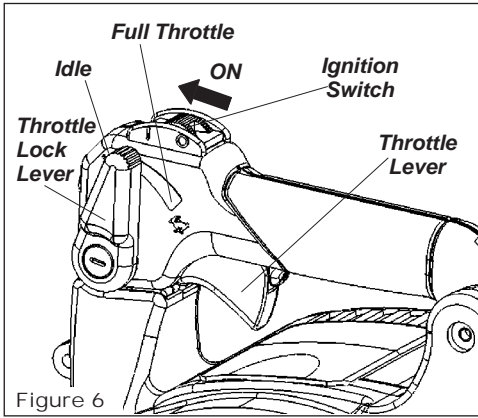

Figure 6
- Slide the ignition switch to the "I" (ON) position, then depress the throttle lever half way and lock throttle by moving throttle lock lever halfway down. See Figure 6.